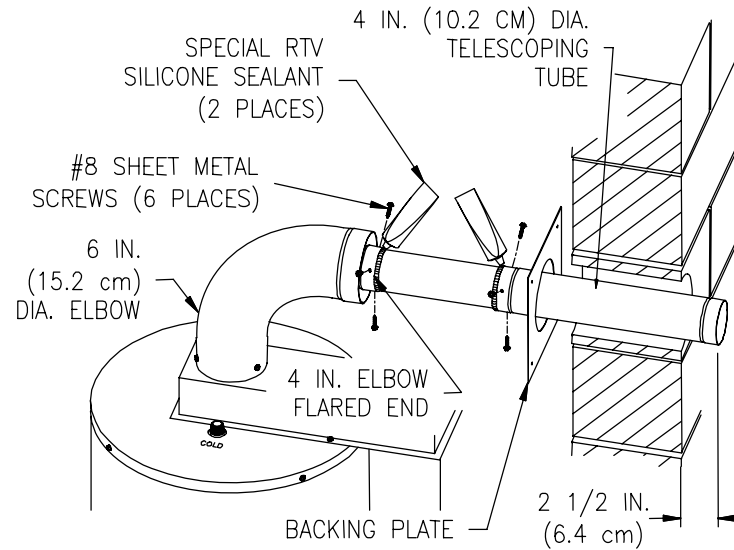

Figure 11.
7. Extend the four (4) inch (10.2 cm) diameter telescopic tube to its maximum length and slide the backing plate over it. Place the large end of the four (4) inch (10.2 cm) diameter telescopic tube through the hole in the outside wall. Insert the smaller end of the four (4) inch diameter (10.2 cm) telescopic tube into the flared end of the four (4) inch (10.2 cm) diameter elbow, one (1) inch (2.5 cm) (or until seated). Drill three (3) 1/8 inch (3.2 mm) diameter holes, 120° apart, through the four (4) inch (10.2 cm) diameter elbow into the four (4) inch (10.2 cm) diameter telescopic tube. Fasten with three (3) #8 sheet metal screws (supplied). Adjust the overall length of the four (4) inch (10.2 cm) diameter telescopic tube so that 2-1/2 inches (6.4 cm) extends beyond the outside wall. Drill three (3) 1/8 inch (3.2 mm) diameter holes, 120° apart, through the four (4) inch (10.2) diameter telescopic tubes where the small and large sections overlap. Fasten with three (3) #8 sheet metal screws (supplied). Using the supplied special RTV silicone sealant, apply a sufficient amount to seal the joints (See Figure 11).